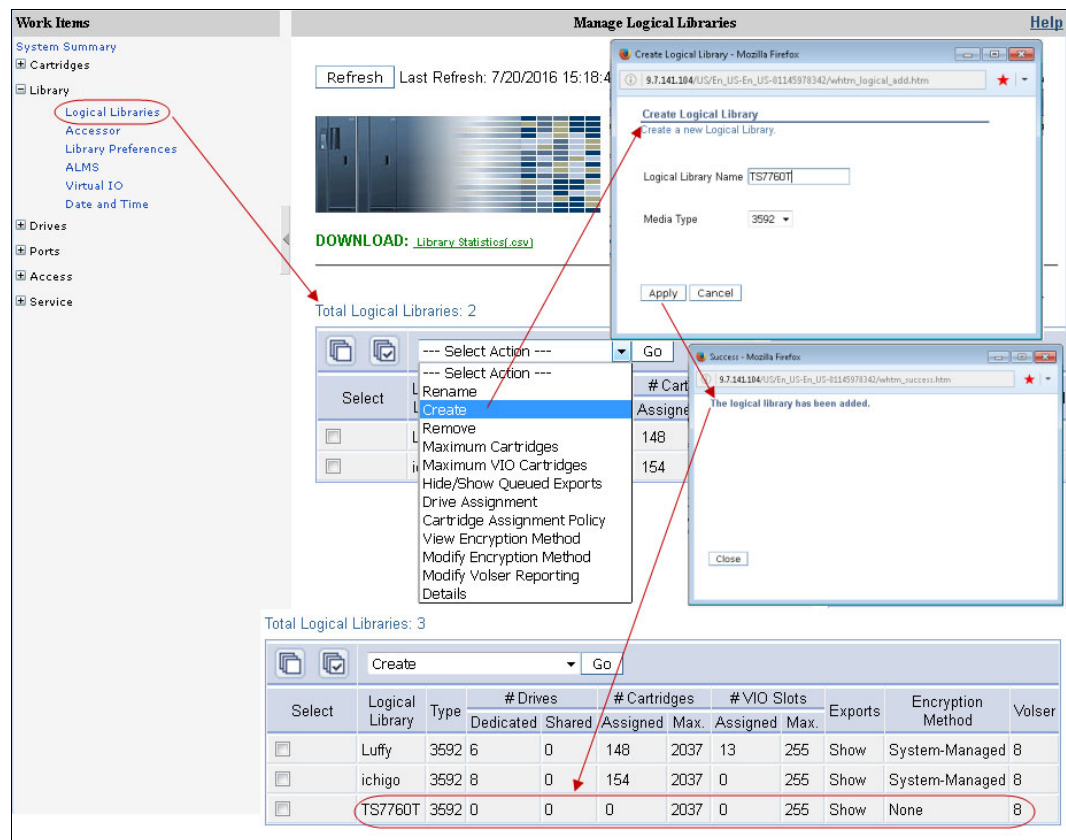

Figure 9-88 Creating a Logical Library with the TS3500 tape library
- After the logical library is created, you can display its characteristics by selecting **Library** → **Logical Libraries** under work items on the left side of the window. Figure 9-88 shows a summary of the screens in the Create logical library sequence.